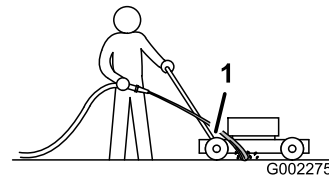

Figure 30
3. Hold the running garden hose at handle level and direct the water to flow on the ground just in front of the right rear tire (Figure 30).